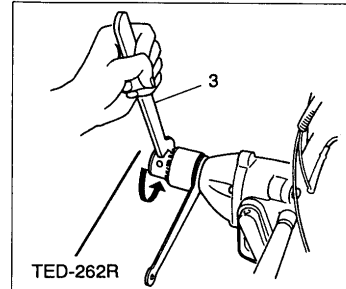

Fig. 2-7
- **Note!** In case of TED-262R, use chuck mount wrench (3) in place of chuck handle and tighten or un-tighten manually instead of hitting. Do not hit the chuck mount wrench. (Fig. 2-7, 7B)